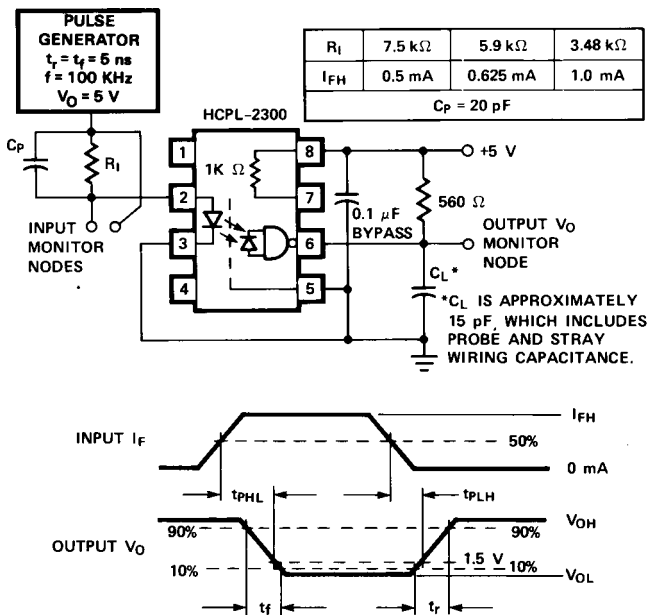

Figure 8. Test Circuit for  $t_{PHL}$ ,  $t_{PLH}$ ,  $t_r$ , and  $t_f$ .
- $C_{\text{P}}$  is the peaking capacitance. Refer to test circuit in Figure 8.